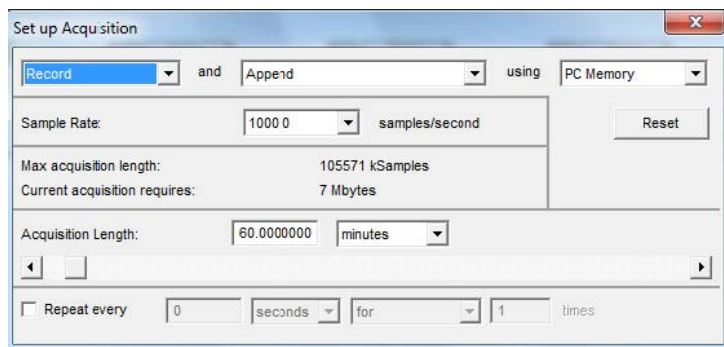

Figure 4: Set up acquisition window
3. Change acquisition length (Fig. 4).